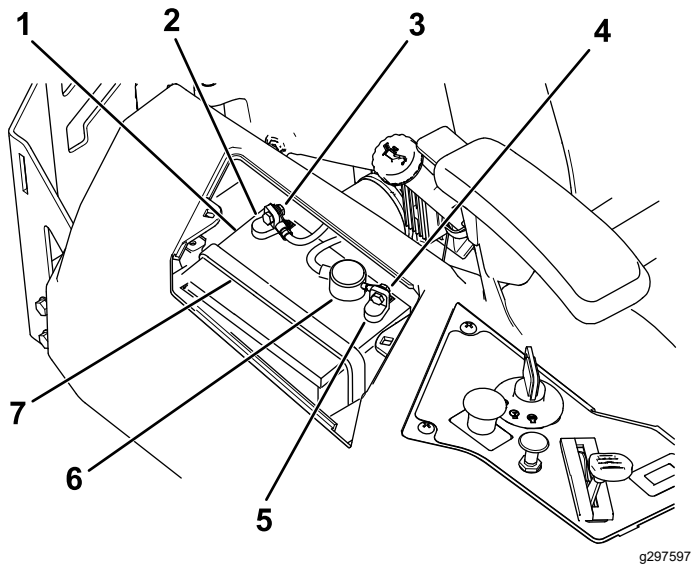

Figure 45
- 4. Disconnect the negative (black) ground cable from the battery post (Figure 45).
- 6. Disconnect the positive (red) cable from the battery post (Figure 45).
- 7. Remove the battery hold-down (Figure 45), and lift the battery from the battery tray.
1. Position the battery in the tray (Figure 45).
5. Secure the battery with the hold-down (Figure 45).